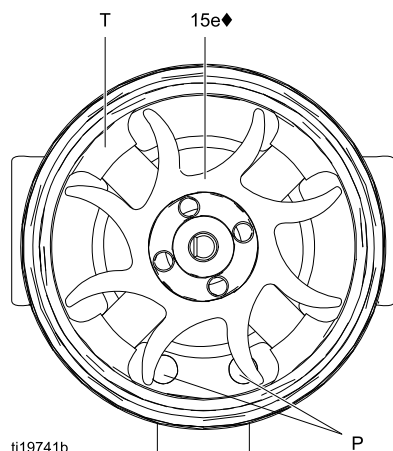
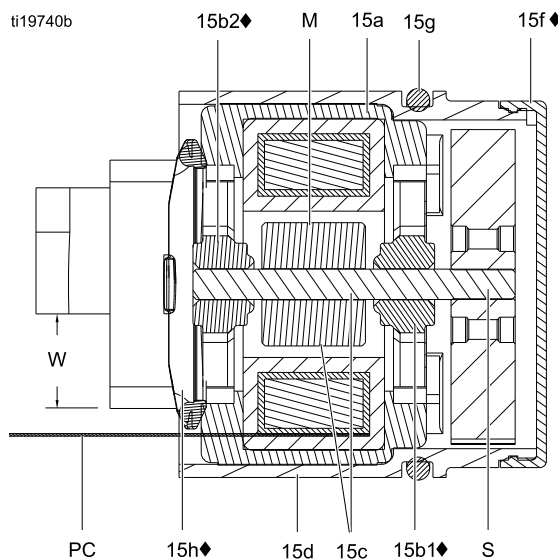

Figure 34 Fan Orientation
Figure 35 Alternator Cross-Section
12. Hold the coil assembly (15a) on a workbench with the fan end facing up. Press the fan (15e♦) onto the long end of the shaft (S). The fan blades must be oriented as shown.
13. Carefully press the coil assembly (15a) into the front of the housing (15d♦) while aligning the pin on the coil with the slot in the housing. The 3-wire connector (PC) must be positioned below the wider notch (W) of the housing tabs, as shown in Fig. 35. Be sure the coil alignment pins (P) are positioned as shown in Fig. 34.
14. Rotate the fan (15e) so its blades clear the four bearing tabs (T) at the back of the housing. Ensure that the blades of the bottom bearing (15b1♦) align with the tabs.